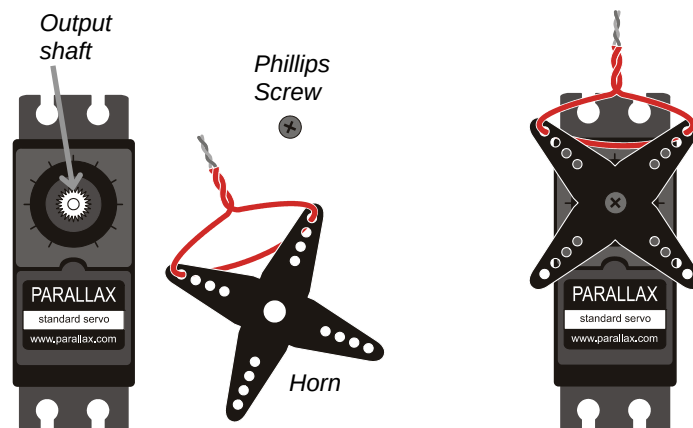

Figure 4-17
You can optionally adjust your servo's horn so that it makes the jumper wire twist tie point straight up when ServoCenter.bs2 is running, like it does in the right side of Figure 4-17. If you make this mechanical adjustment, it'll simplify tracking the servo's angles because each angle will resemble the ones in Figure 4-13 on page 102.
- ✓ Remove the screw that attaches the servo's horn to its output shaft, and then gently pull the horn away from case to free it. Your parts should resemble the left side of Figure 4-17.
- ✓ Slip the horn back onto the servo's output shaft so that it makes the twist tied wire point straight up like it does on the right side of Figure 4-17.